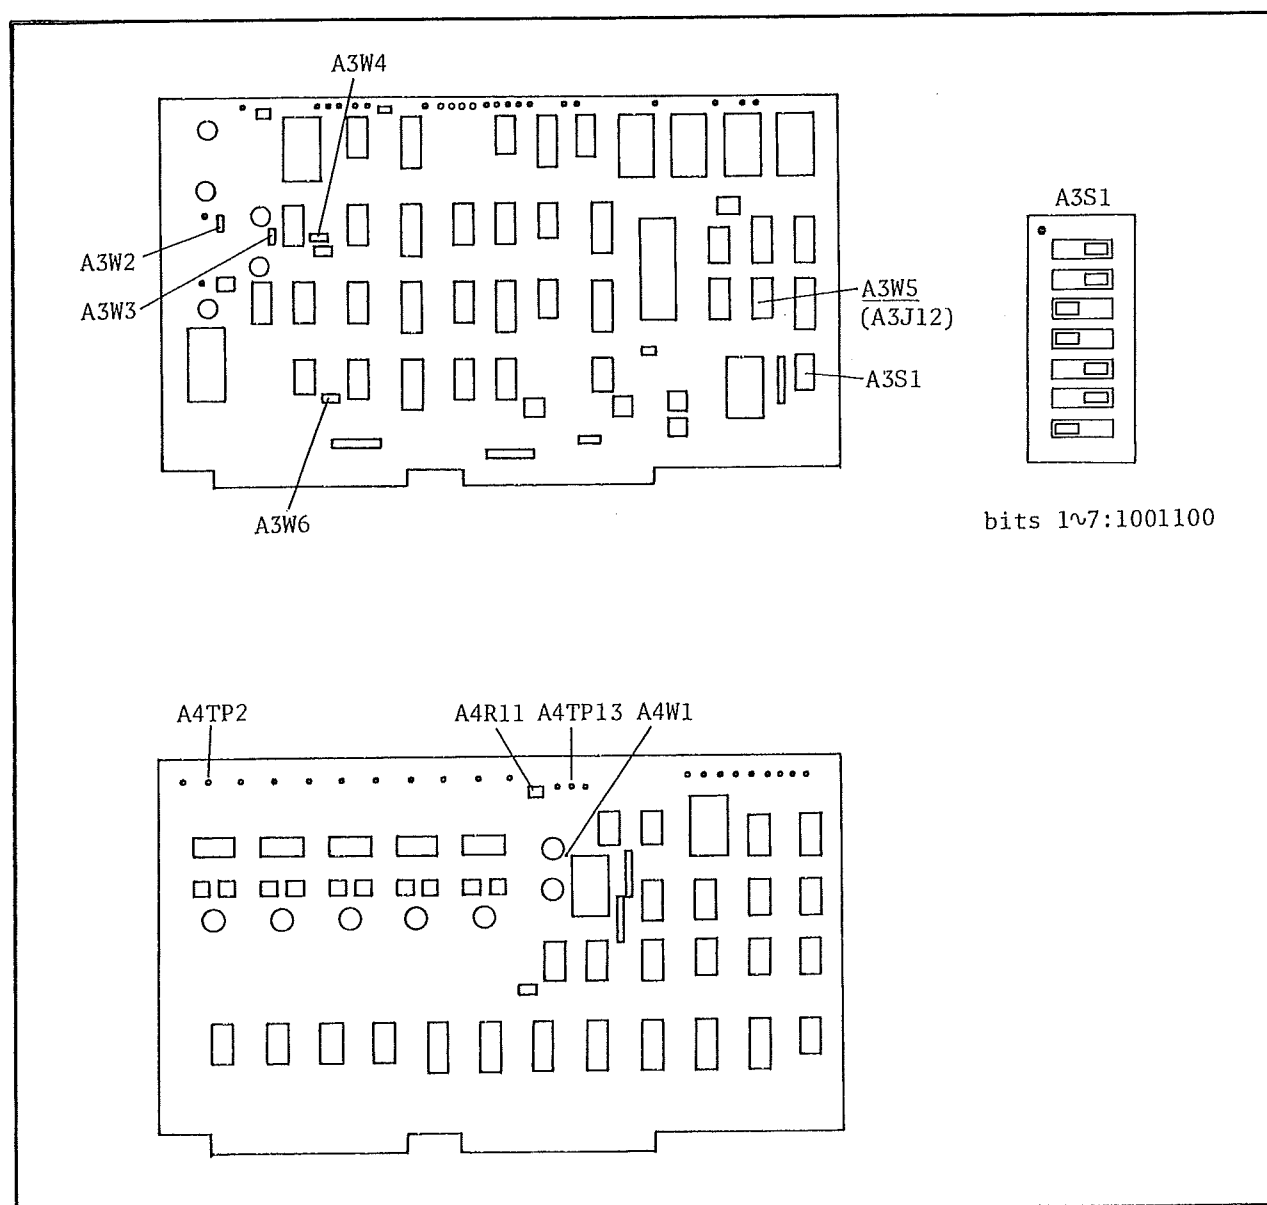

Figure 5-15. Check/Adjustment Point Locations.
1. Remove the A3 SMU Control and A-D Converter Board and A4 D-A Converter Board, and set A3S1 (SW1) to 1001100. See Figure 5-15 for the location of A3S1.
2. Verify that jumpers A3W2 through A3W6 and A4W1 (see Figure 5-15 for the locations) are set to N (Normal Mode).